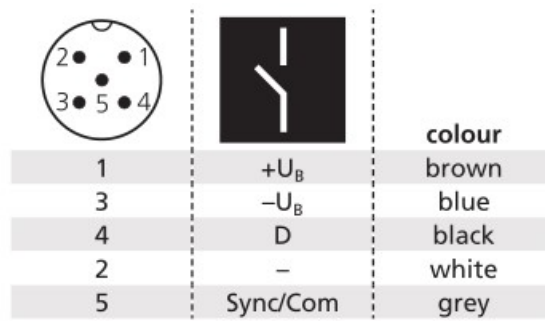

Fig. 2: Pin assignment with view onto sensor plug and colour coding of the micro-sonic connection cable
- Plug in the connector cable to the M12 connector, see Fig. 2.